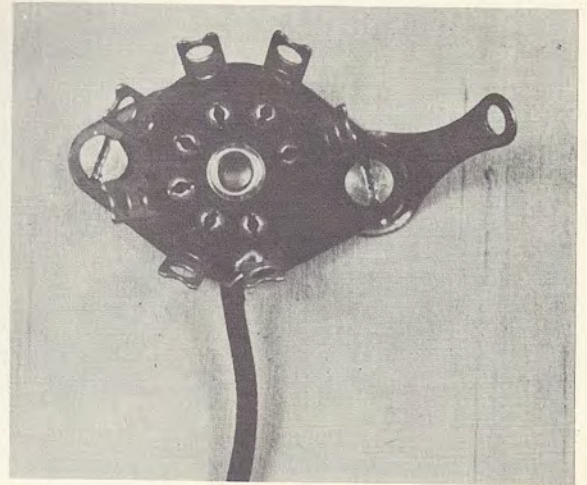

Fig. 2-5
Step 3. If the wire has moved up on the lug, push it down again and tighten it with a pair of long-nose pliers. The finished job should look like Fig. 2-5. Then solder the wire. Don't use so much solder that the entire hole is covered; use just enough to make a good soldered joint. Be careful not to let any solder flow down into the tube-pin opening.